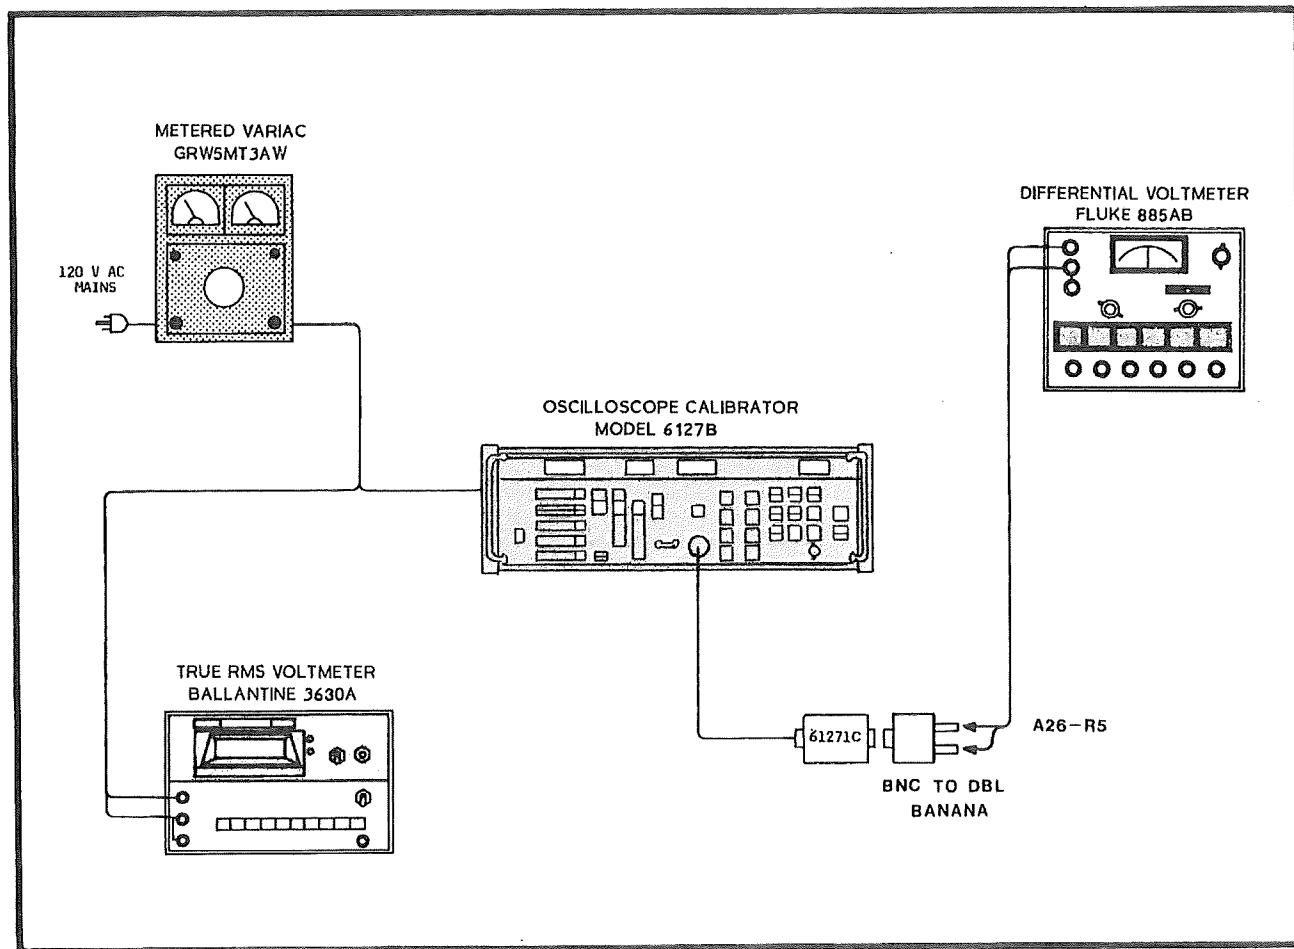

Figure 5-10. Current Calibration, Test Set-Up
b. Connect the differential voltmeter across A26-R5 as shown in figure 5-10.